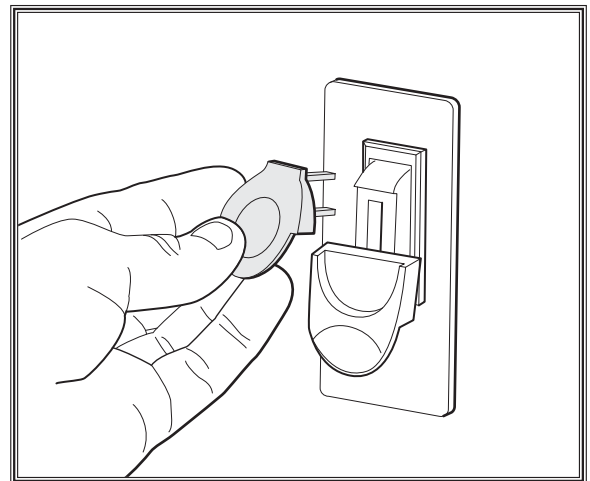

Figure 12. Removing switch key from paddle switch.
4. Remove switch disabling key (see **Figure 12**).